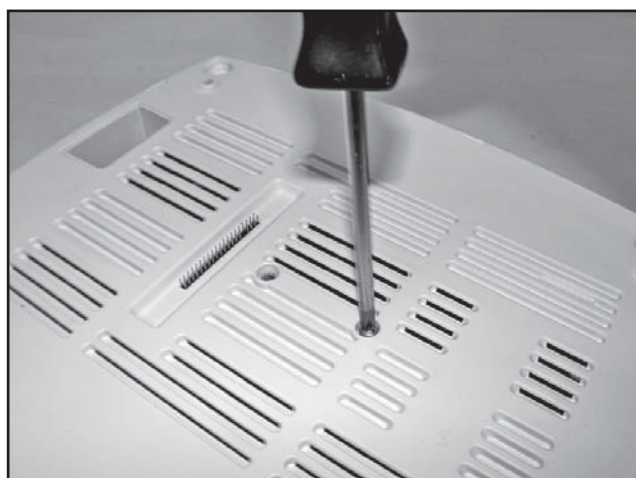

FIGURE 5.37
9. Using the #1 Phillips Screwdriver, remove the two retaining screws in the top of the NiMH Battery Module. See **Figure 5.37**.